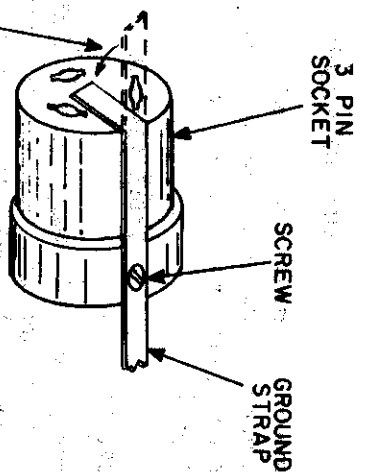

FIGURE 15D
- (✓) Bend the ground strap over the edge of the 3-pin socket, as shown. Remove the screw that retains the ground strap. See Figure 15D.